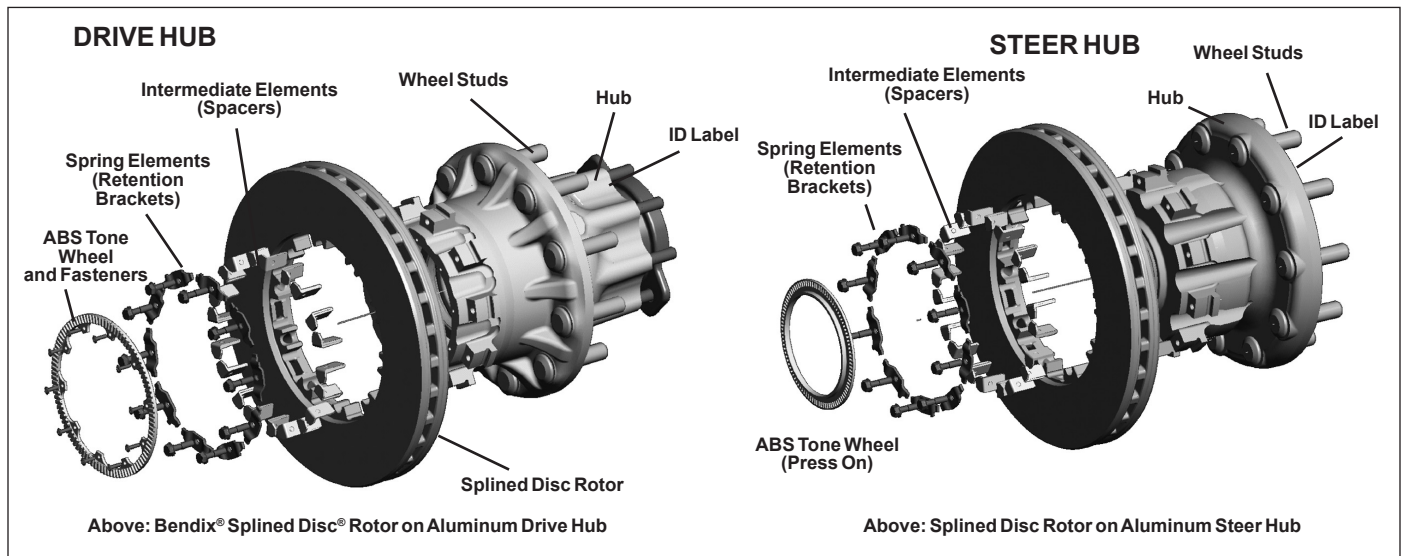

Figure 86 – Splined Disc Rotor Examples - Exploded Views
- 4.7.7 On drive axles, the ABS tone ring must also be removed. See Figure 86. Retain for reinstallation.